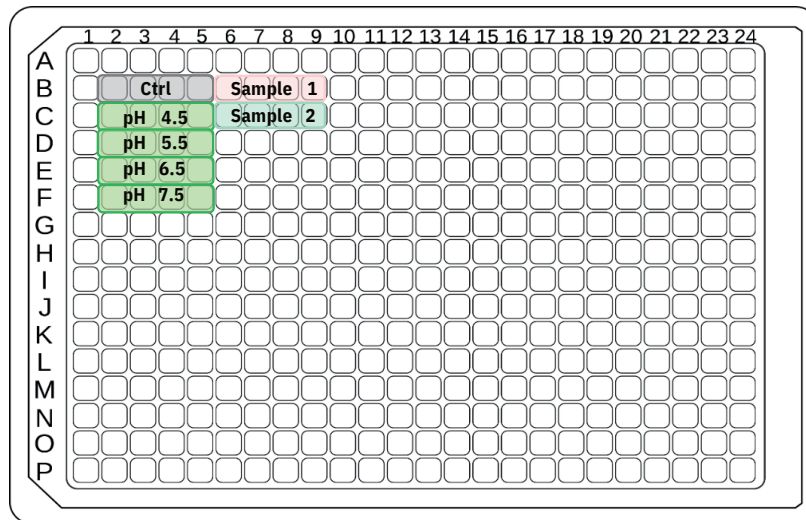

Figure 1: Example of 384-well plate configuration with positive controls and calibrators.
- In the multi-well plate, aspirate the cell medium and add 100 μL of CONTROL SPChip® dilution to the control wells (see **Figure 1**). Vortex the tube right before use. Add 100 μL ASSAY SPChip®-containing fresh culture medium per well. Homogenize the solution by pipetting up and down often.
- See an example of plate template in **Figure 1** where *sample 1* and *2* are cells of interest; *ctrl* wells are non-fluorescent SPChips; wells with different pH in rows C, D, E and F are intracellular calibration wells where measurements should be interpolated.